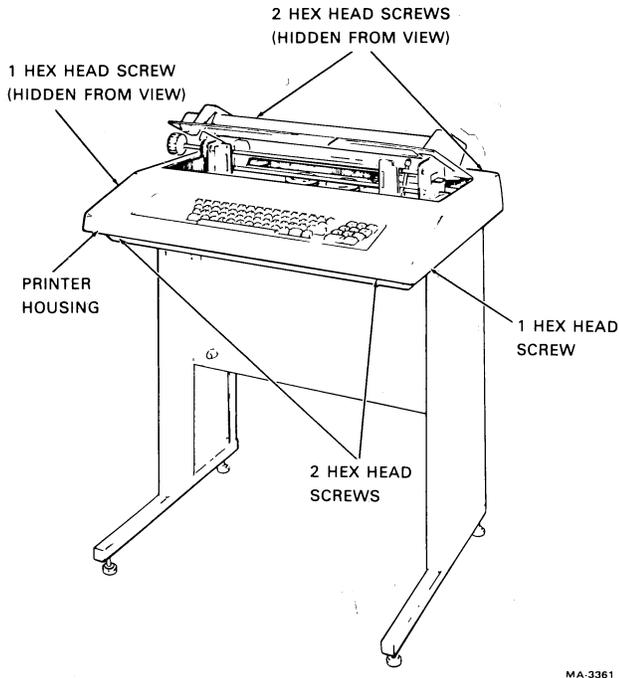

Fig. 2—Printer Housing Cover Removal and Installation
- (c) Remove six (6-32) hex-head screws that secure the printer housing to the cabinet base (Figure 2) and set them aside.